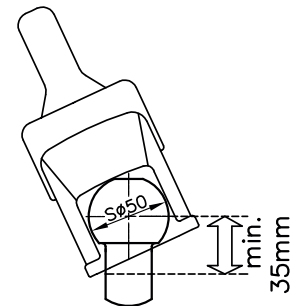

Fig. 1: Towing vehicle ball rod
1.3 WS 3000/3500 ball couplings can only be used with coupling balls pursuant to DIN 74058 / ISO 1103 if the ball neck is **free from fittings over a distance of 35 mm** (Fig.1) (instead of 32 mm pursuant to DIN 74058 / ISO 1103).